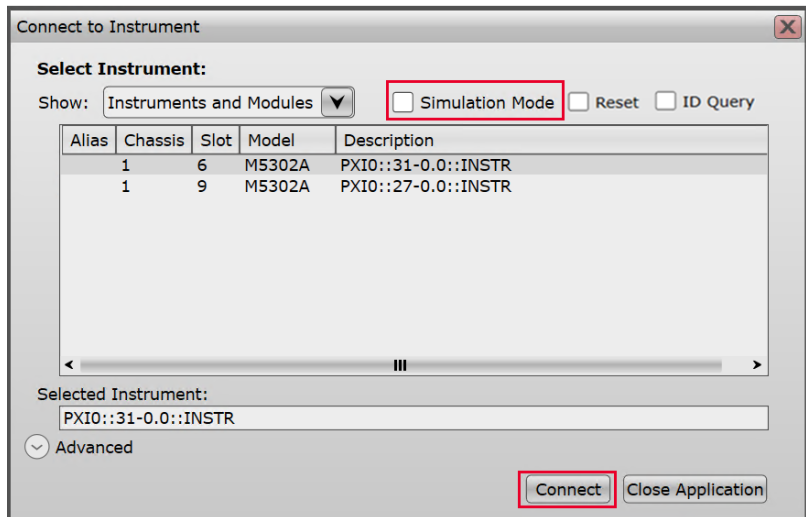

Figure 36 Connect to Instrument with "Simulation Mode" disabled
- 'Simulation mode' disabled—This is the active mode of SFP operation and is available when the **Simulation Mode** check box is manually cleared. The **Simulate** button is replaced with the **Connect** button on the **Connect to Instrument** window, as shown in Figure 36. In this mode, only the active modules are displayed along with the respective chassis number, slot number and VISA address.